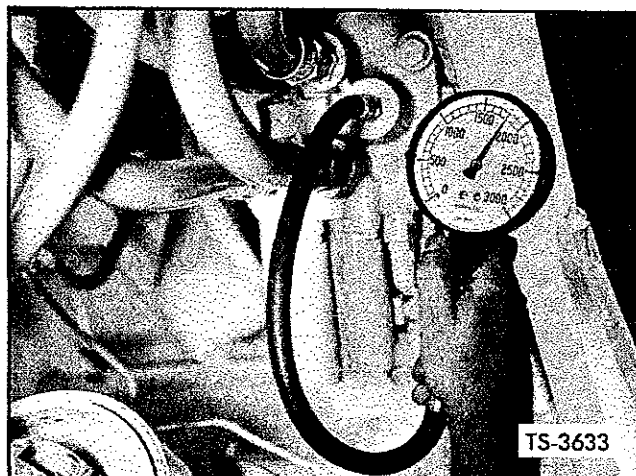

Fig. 41. Check Pressure — Boom and Bucket Control Valve
2. Remove pipe plug from control valve, and attach gauge as shown in Figure 41. Apply parking brake and block wheels.